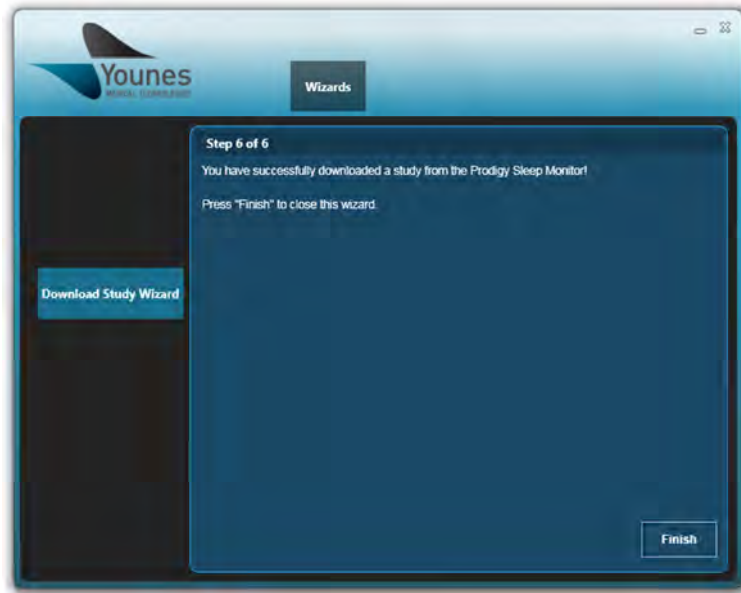

Figure 84 – Windows PC Prodigy Application Download Complete Screen (Download Study Wizard)
11. Once you have finished reviewing the study, click “Next,” which advances to the final screen, shown in Figure 84.